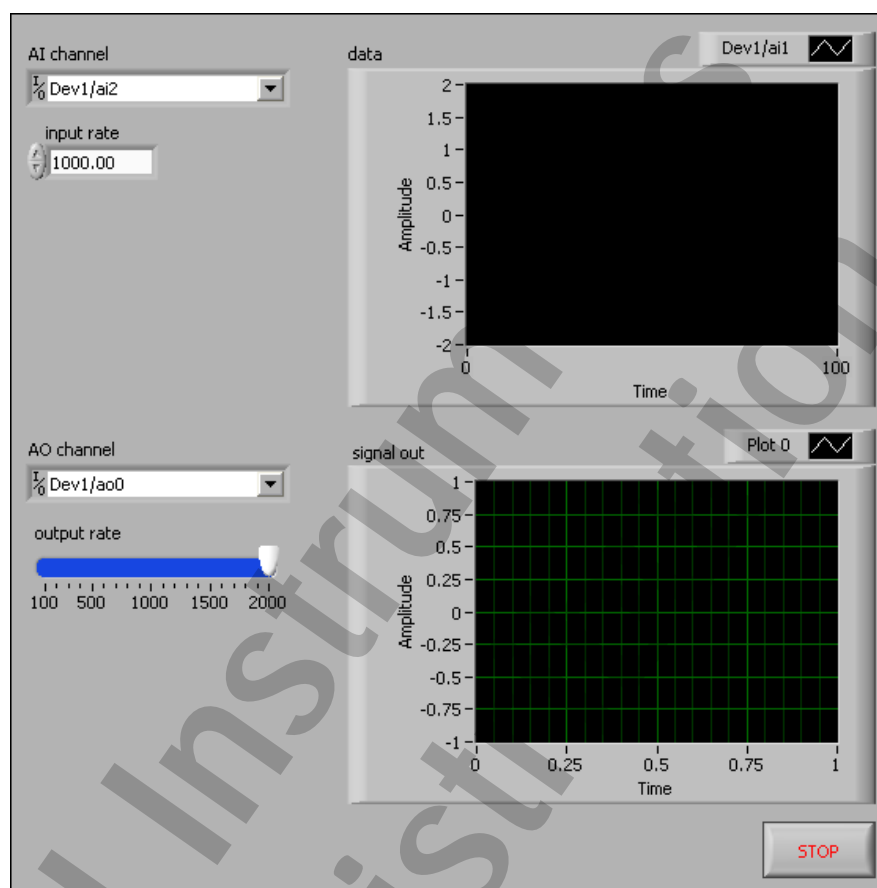

Figure 8-2. Simultaneous Start VI Front Panel
5. Arrange the items on the front panel, as shown in Figure 8-2.